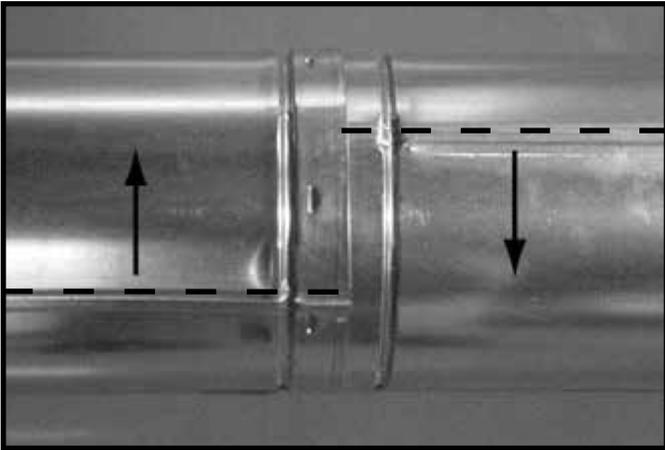
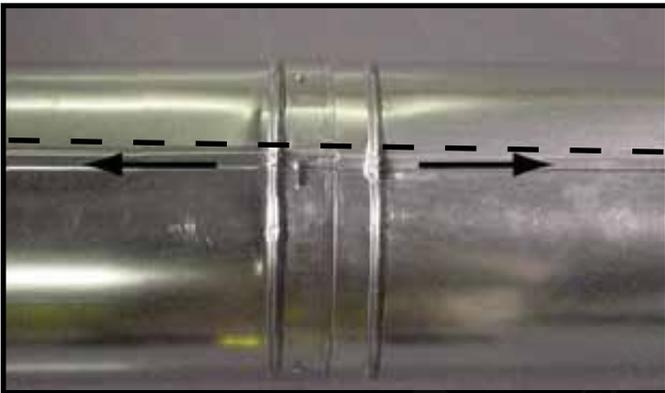

Figure 7.9 Rotate Seams for Disassembly
Figure 7.10 Align and Disassemble Vent Sections
- Rotate either section (see Figure 7.9) so the seams on both pipe sections are aligned as shown in Figure 7.10